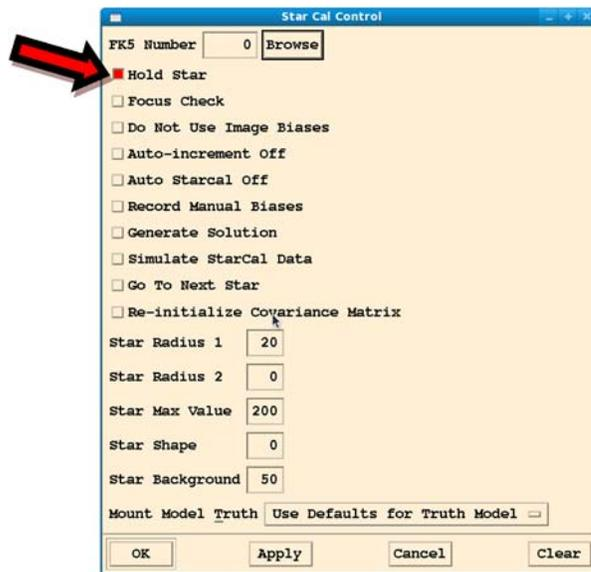

Figure 5-6: Star Cal control with Hold Star selected
2. Configure the Star Cal Control window – Go to **Control** => **Star Cal** control menu and select **Hold Star** (Figure 5-6). **DO NOT** select **Apply** yet.